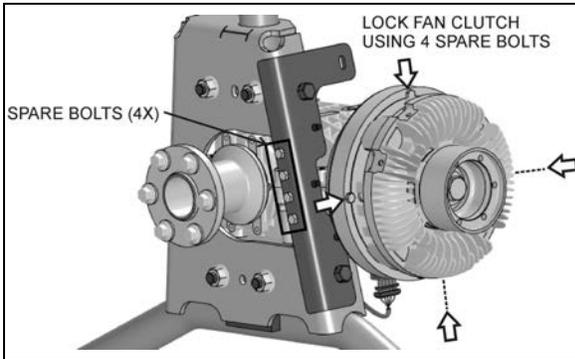

FIGURE 24: MECHANICAL LOCKING 05124
3. Unscrew and remove the 4 spare M6x12 hex bolts screwed to the angle on the fan gearbox mounting support (**FIGURE 24**).